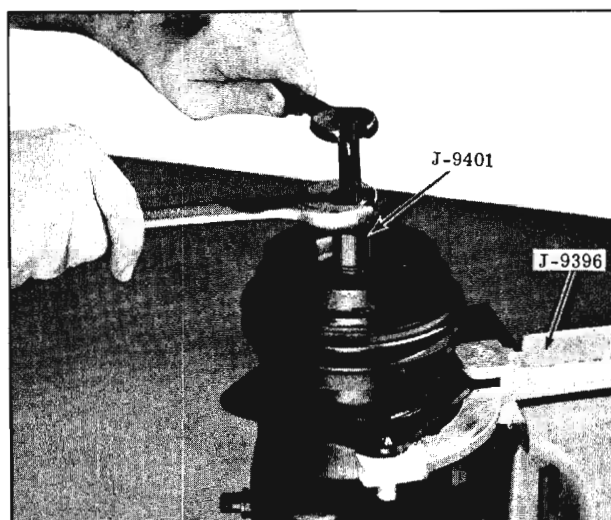

Fig. 15-42 Removing Driven Plate
2. Install Puller J-9401 into hub of driven plate. Hold main body of tool and turn forcing screw clockwise to remove driven plate. (Fig. 15-42)